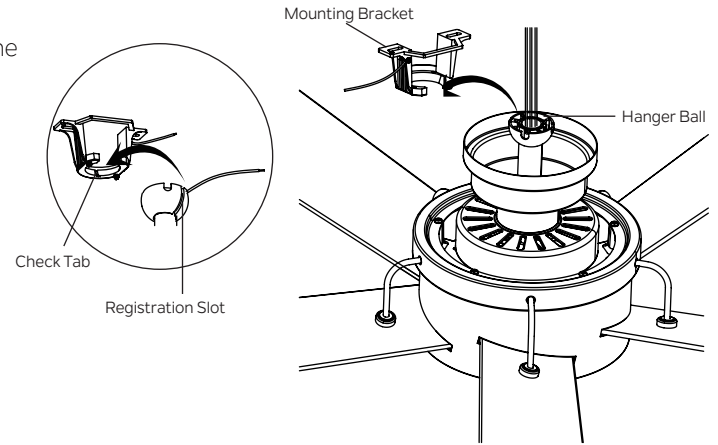

Fig. 13
Step 1. Now lift the motor body into position and place the hanger ball into the mounting bracket. Rotate until the check tab has dropped into the registration slot and seats firmly. (Fig. 13) The entire motor body should not rotate if this is done correctly.